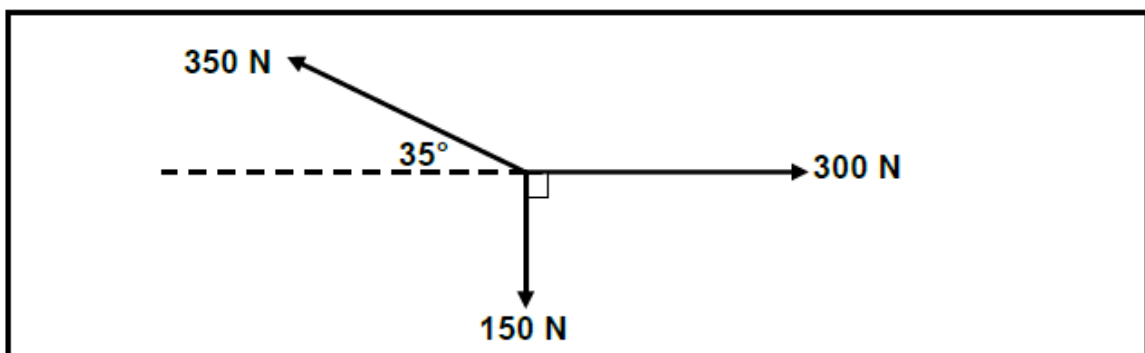

FIGURE 5.7
- 5.7 FIGURE 5.7 below shows a system of forces with three coplanar forces acting on the same point. Use calculations and determine the magnitude and direction of the resultant force of this system of forces.
**(Draw and complete the diagram in FIGURE 5.7. Show ALL the horizontal and vertical components before you do the calculations.)**